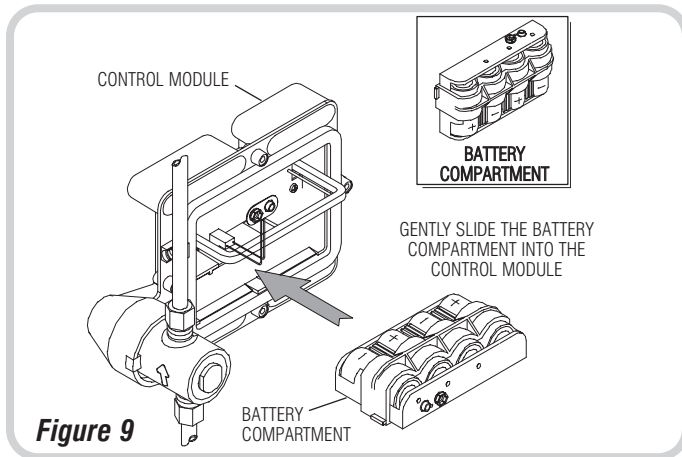
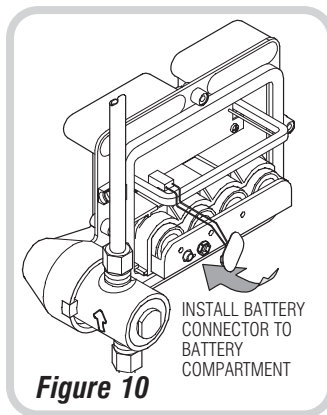

Figure 9
Figure 10
Step 6 — Install Battery Compartment into Control Module (Figures 9 and 10)
Note: If batteries are not already installed, install them as instructed on Page 7. Install Battery Compartment into the Control Module as illustrated in Figure 9. Connect Battery Connector to Battery Compartment as illustrated in Figure 10. An audio “beep” will sound when power to the Control Module is detected.